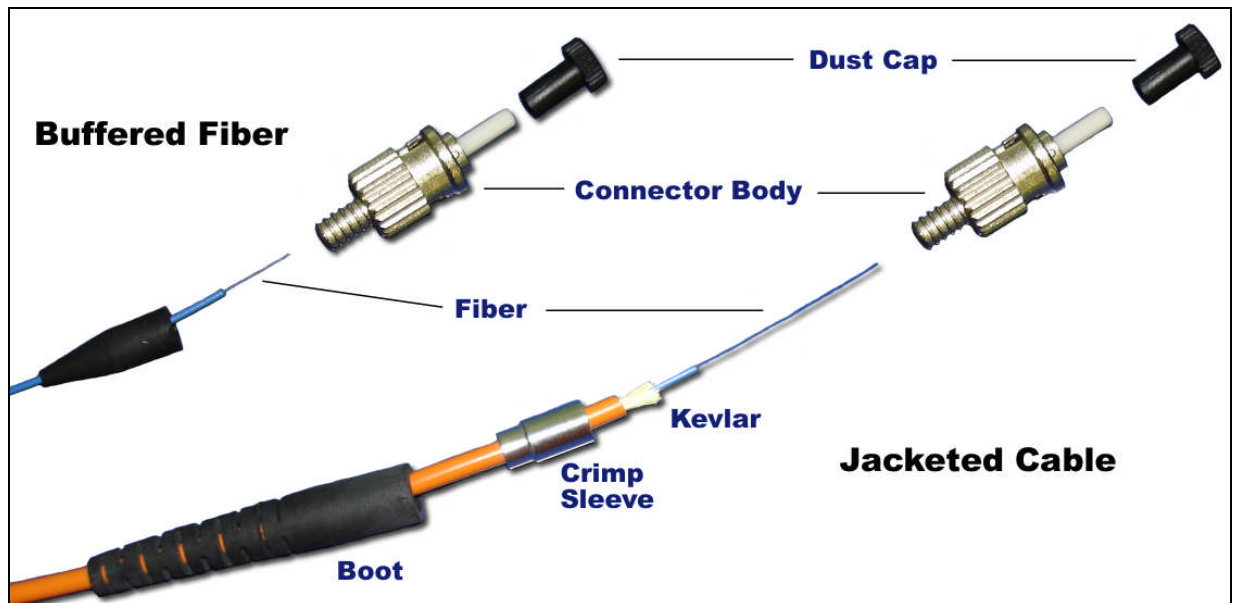

Fig 1
Fig. 1 shows the structure of the LightCon™ ST Connector, consisting of Connector Body, Crimp Sleeve, Boots, and Dust Cap. Connectors for different cables/fibers may vary slightly by boots or crimp sleeves. Follow the steps below to make cable assembly.
- Step 1** Slide the Boot and Crimp Sleeve onto the Cable as shown in Figure 1.